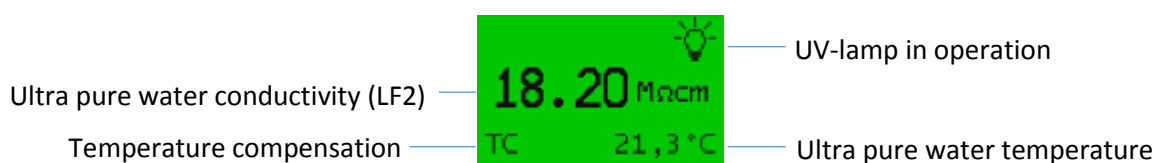

Figure 11: Main display
The main display (refer to page 21 Figure 11: Main display) is automatically shown when the system is switched on. It provides information on the actual system condition and shows you the measured value of the conductivity at the withdrawal point (LF2) in the unit that has been set ($\mu\text{S}/\text{cm}$ or $\text{M}\Omega\text{cm}$) as well as the temperature of the ultra pure water. Further to this, it shows if the conductivity measurement is made with temperature compensation (TC) or without it (NTC). If your version is an OmniaPure UV, UV/UF, UV-TOC or UV/UF-TOC the lamp symbol provides information on the operating condition of the UV-lamp when it is switched on.